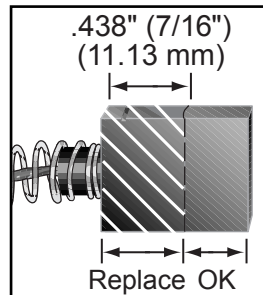

Figure 14
- B. Inspect the brushes for signs of excessive wear or cracks. The motor brushes must be replaced if one or both is worn to .438" (7/16"/11.13mm) or less in length, is broken or chipped, has a broken spring, or binds in the motor. See Figure 14.